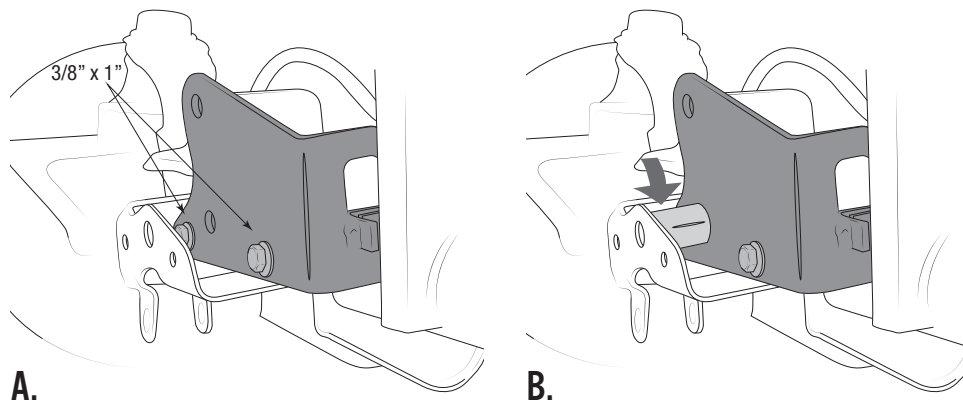

Figure 2
1. Place bracket with “half moon” cutouts inside the original front track bar bracket and over the axle tube (Fig. 2-A). Insert two of the supplied  $3/8" \times 1.0"$  L bolts and washers through the small holes in the bracket and the corresponding holes in the stock bracket, then add nuts and hand tighten.
3. Insert the supplied spacer tube between stock track bar bracket and new bracket (Fig. 2-B), lining it up with the original track bar bolt hole. (This may require slight prying or tapping with a hammer.)